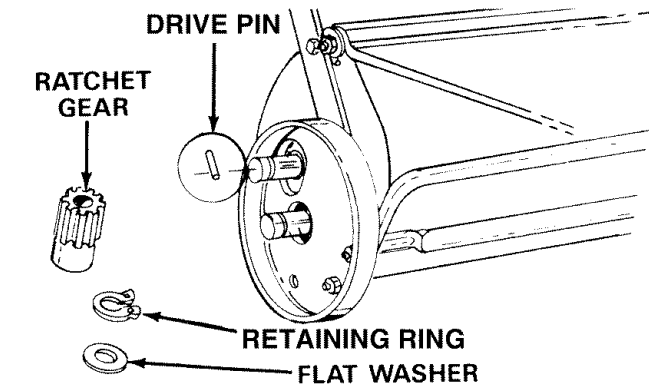

FIGURE 24
- Remove the gear by sliding it off the brush shaft. (Look for the drive pin, which may fall out of the brush shaft when the ratchet gear is removed.) See figure 24.